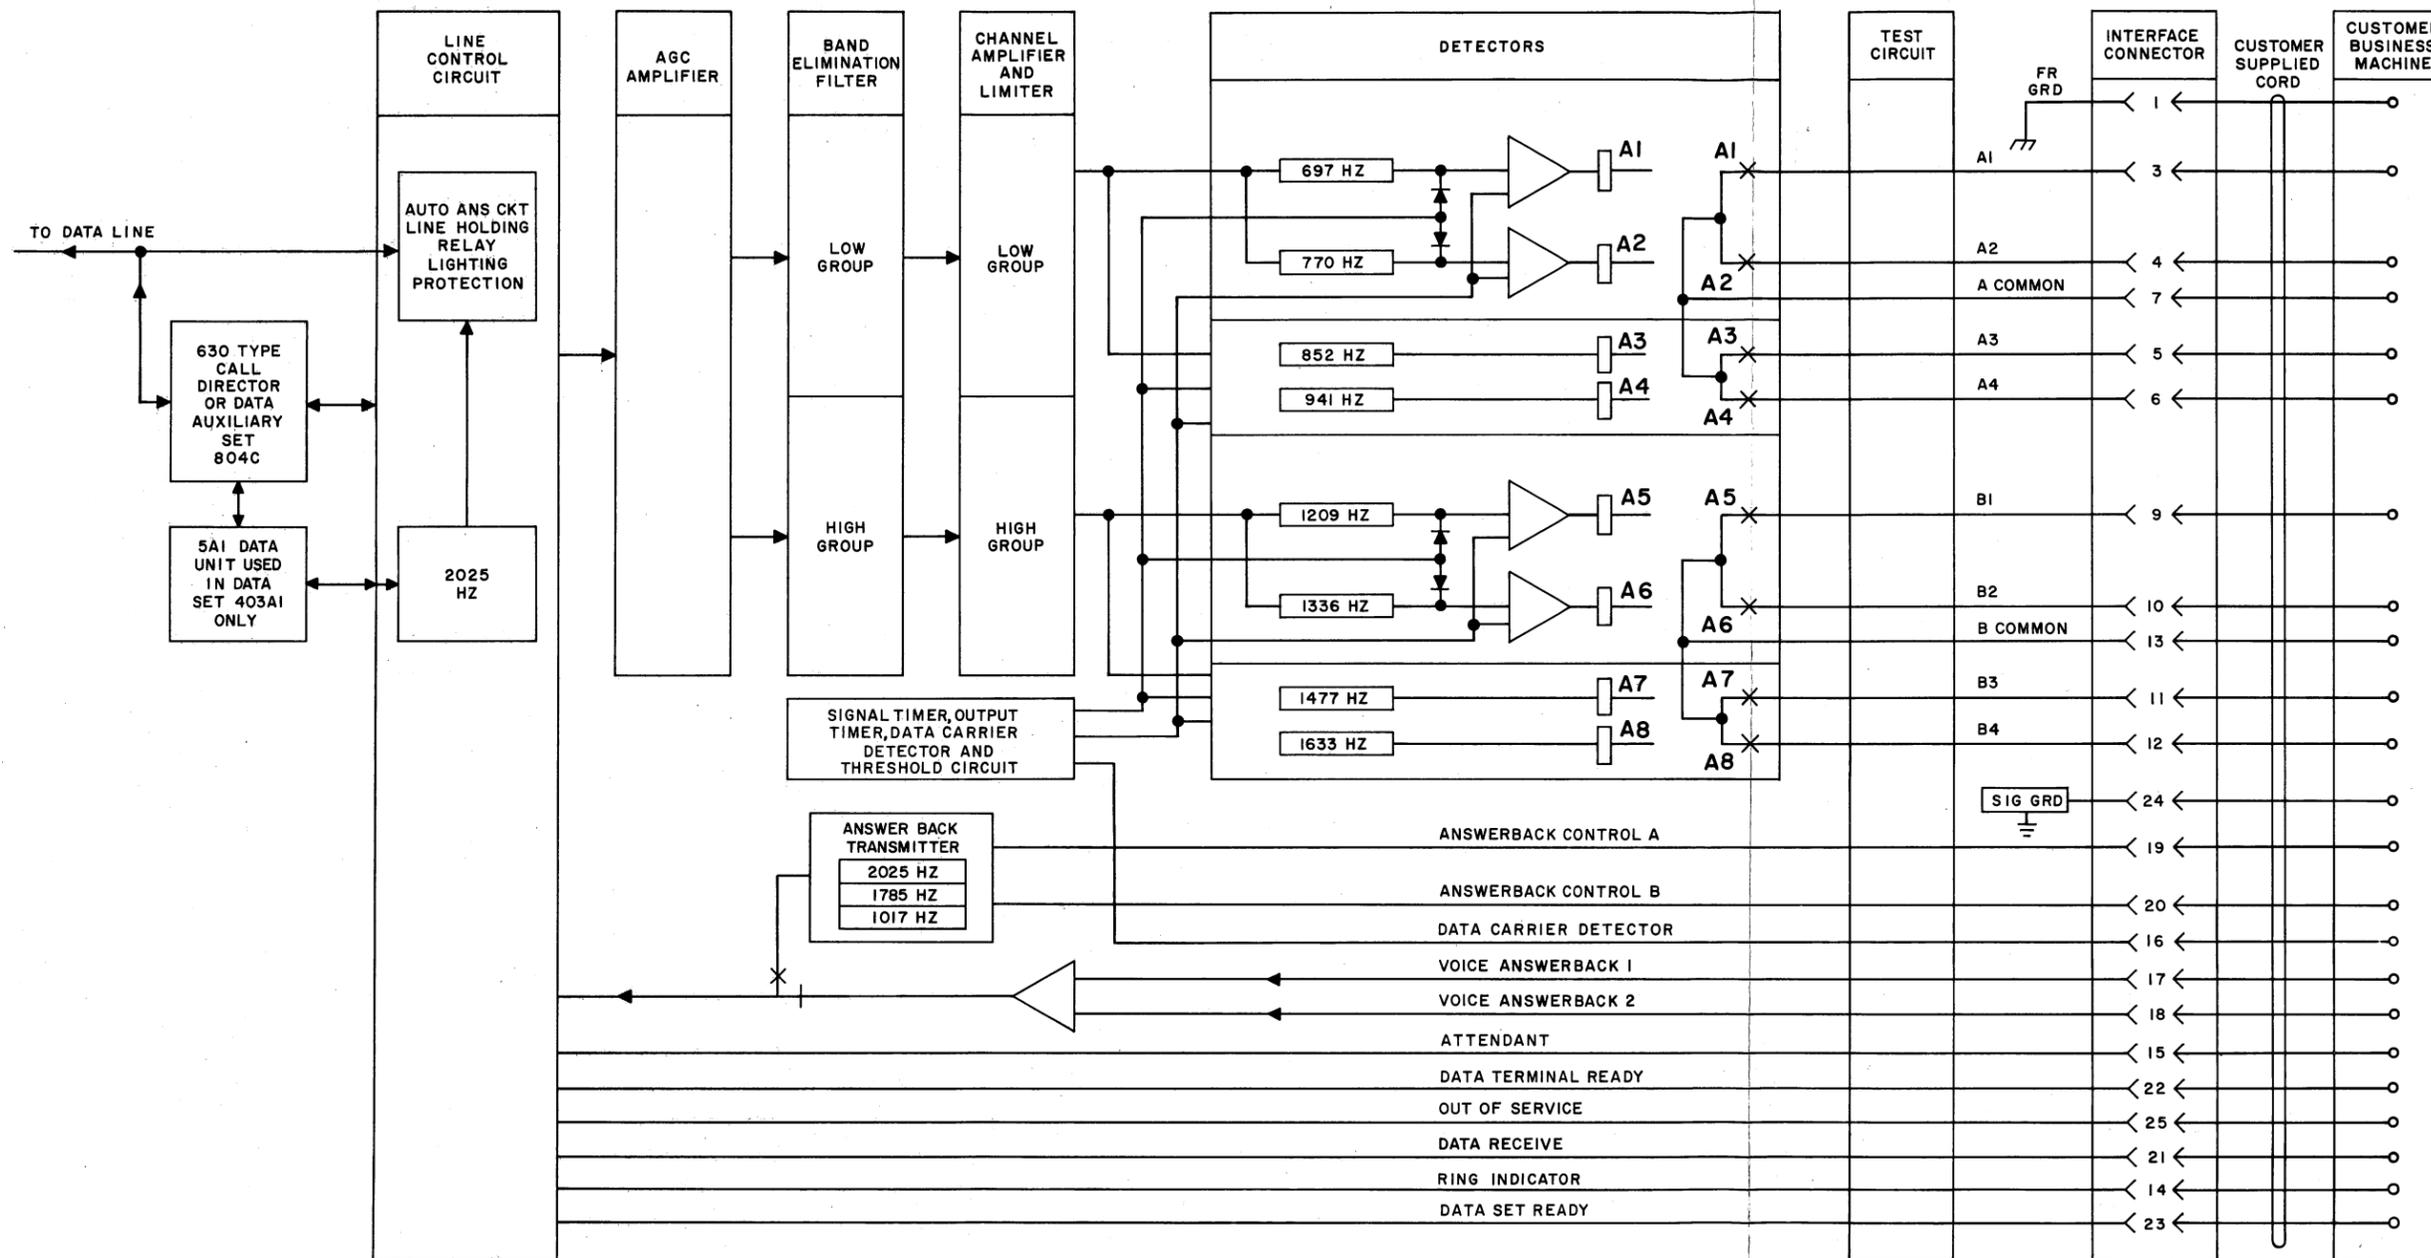

Fig. 6—Data Set 403A-Type, Functional Block Diagram
(5) The 5A1 Data Unit is a key telephone control unit which consists of ten relays, five for each receiver. It is used with key telephone equipment in multiple line installations. It provides the necessary switching and controls to intercept incoming data calls, and places the data set in the test mode. The 5A1 Data Unit is available in the data set on a plug-in basis. Fig. 6 shows a functional block diagram of Data Set 403A-type.